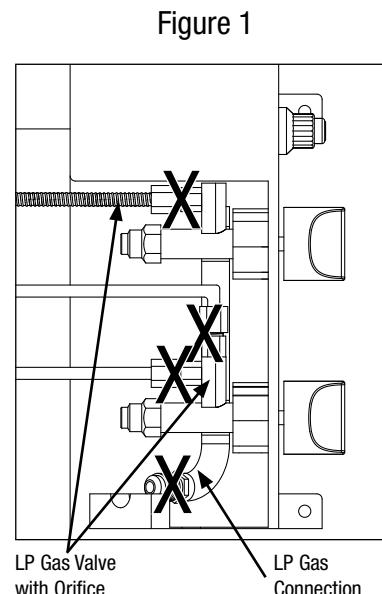

Figure 1
4. Please refer to diagram for proper installation (Figures 1 and 2).
5. Spoon several drops of solution, or use a squirt bottle, at all "X" locations (Figures 1 and 2).